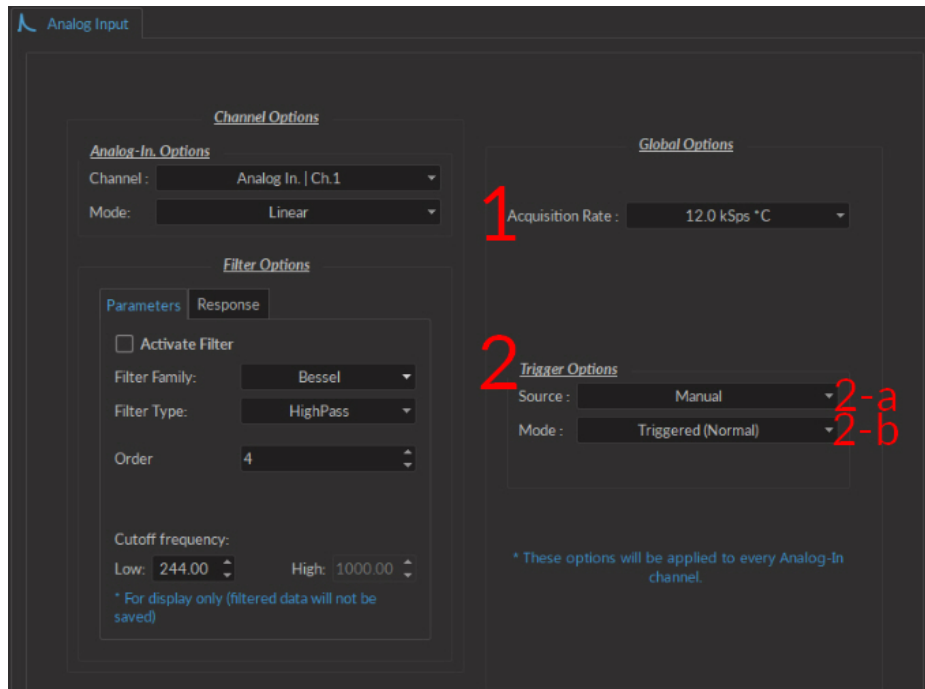

Figure 3.22: Channel(s) configuration window, Analog Input Linear
The **Analog Input** channels (Fig. 3.22) acquire from the **Analog Input** BNC connector ports. For these channels, **Sequence Options** are replaced by **Global Options** concerning the acquisition of data. These **Global Options** are applied to all **Analog input** channels. They use different **Channel Modes** unique to the **Analog Input** channels.
1. The **Acquisition Rate** (Fig. 3.22) is measured in kilosamples per second. A rate of 1 kSps will acquire 1,000 samples per second per channel. During an acquisition, a maximal amount of $3.6 * \text{rate [in kSps]} \text{ MB/min}$ of data are created.
- The **Linear** channel mode (Fig. 3.22) allows the direct measurement of signal received by a channel. The linear mode has the option of a frequency filter, found in the **Filter Options** box.